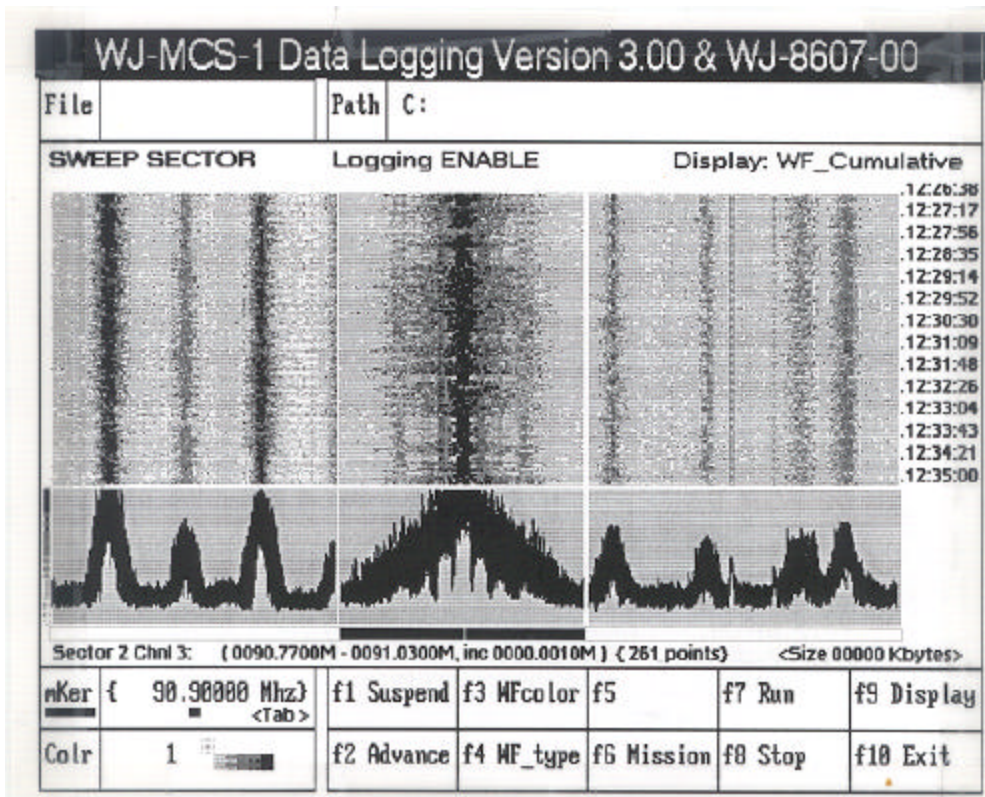

Figure I-30. DATA LOGGING WF_Cumulative Display
4. "WF_Cumulative" - (waterfall cumulative, shown in **Figure I-30**) provides the cumulative captured signal activities on the two-dimensional display. This display option shows the signal amplitude of the logged spectrum in a line graph format similar to WF_Line 3 for each sweep. It does not clear the display between sweeps thereby presenting an accumulation of sweep data for the sector swept. This display allows the operator to evaluate the density of the monitored frequency range, and by allowing the display to update for a reasonable period of time, the operator can readily determine which sections of the monitored spectrum are unused.